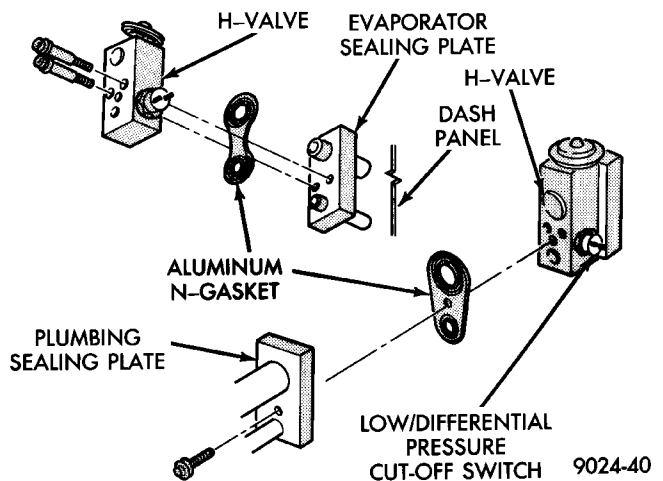

Fig. 34 Expansion Valve
- (1) Remove the boot-type wire connector from the pressure cut-off switch.
- (2) Remove the center bolt of refrigerant line plumbing sealing plate (Fig. 34).
- (3) Carefully pull the refrigerant line-sealing plate assembly from the expansion valve towards front of vehicle. Do not scratch the expansion valve sealing surfaces with pilot tubes.
- (4) Cover the openings on A/C line-sealing plate assembly to prevent contamination.
- (5) Remove two screws securing the expansion valve to the evaporator sealing plate.
- (6) Carefully remove valve.